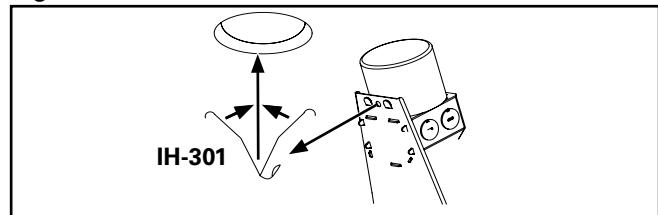

Figure 2.
2. Hook Remodeler unit on the Contractor's Third Hand via the hole in the plaster frame. Hang the Contractor's Third Hand in hole in ceiling (Figure 2.).